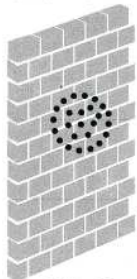

FIG. 2
3. Put the unit on the wall and mark on the 4 corner holes position (see fig 2) and the area for small holes (see fig 2).
4. Put the unit to cover outside the window and use 4 pieces plastic adaptor for mounting tightly - (see fig 2)